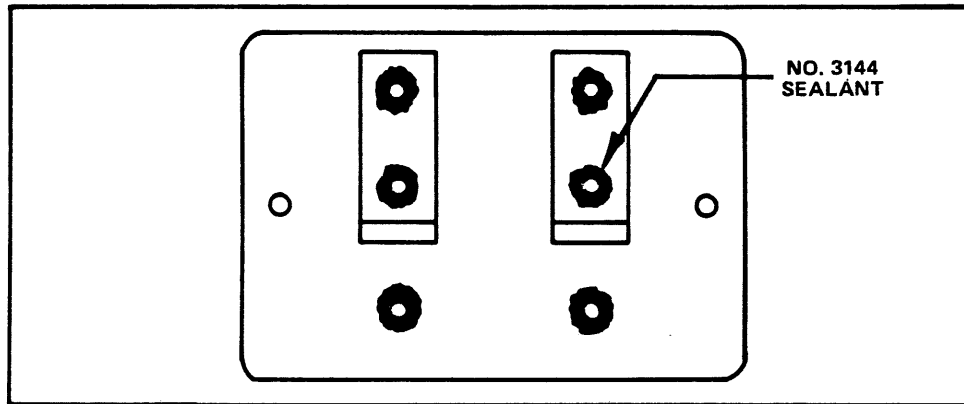

Figure 31. Sealing of Battery Pack screwholes.
STEP 30. Watertight sealing procedures for the Battery Pack (see Figures 31 and 32)
- (1) 1502 TPN 016-0595-00, MPL Item 2-37.
- (2) 1503 TPN 016-0595-00, MPL Item 2-30.
- (1) Clean Panel with isopropyl alcohol.
- (2) Form a bead of No. 3144 sealant in and around each of the six screw holes in the Panel. See Figure 31.